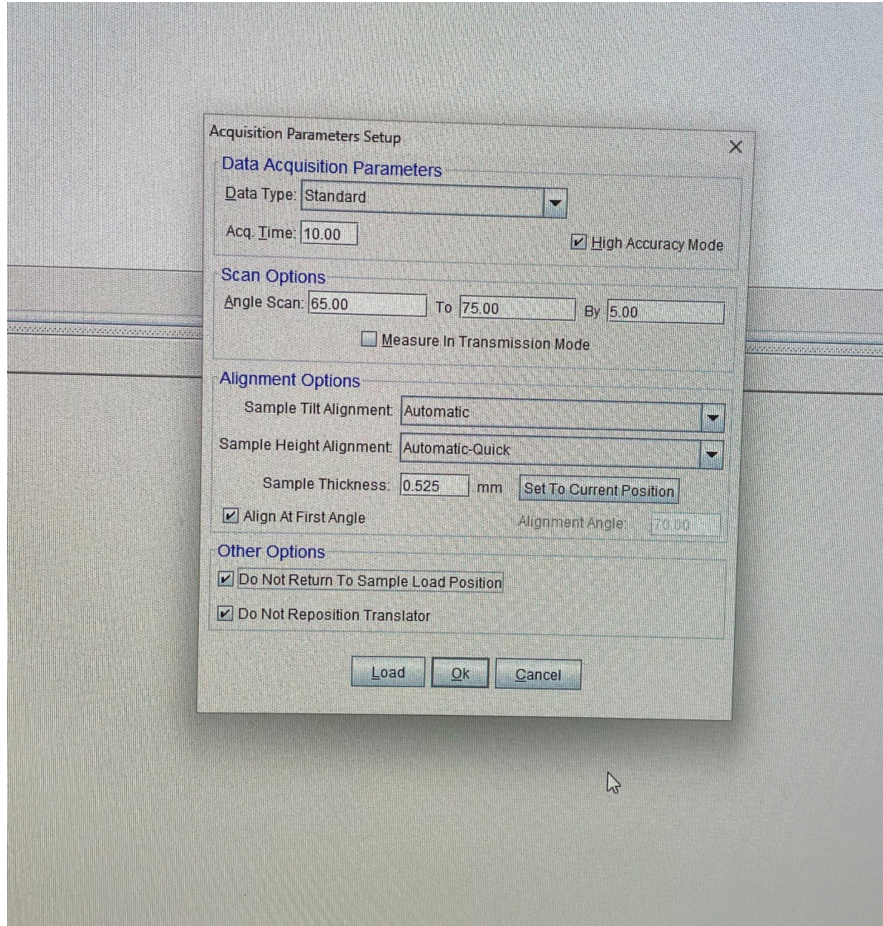

Figure 5: Acquisition Parameters Setup
8.1.9. For most cases, select “Prompt for Acquisition Parameters”. This opens a window where you can specify your parameters. **Figure 5.**